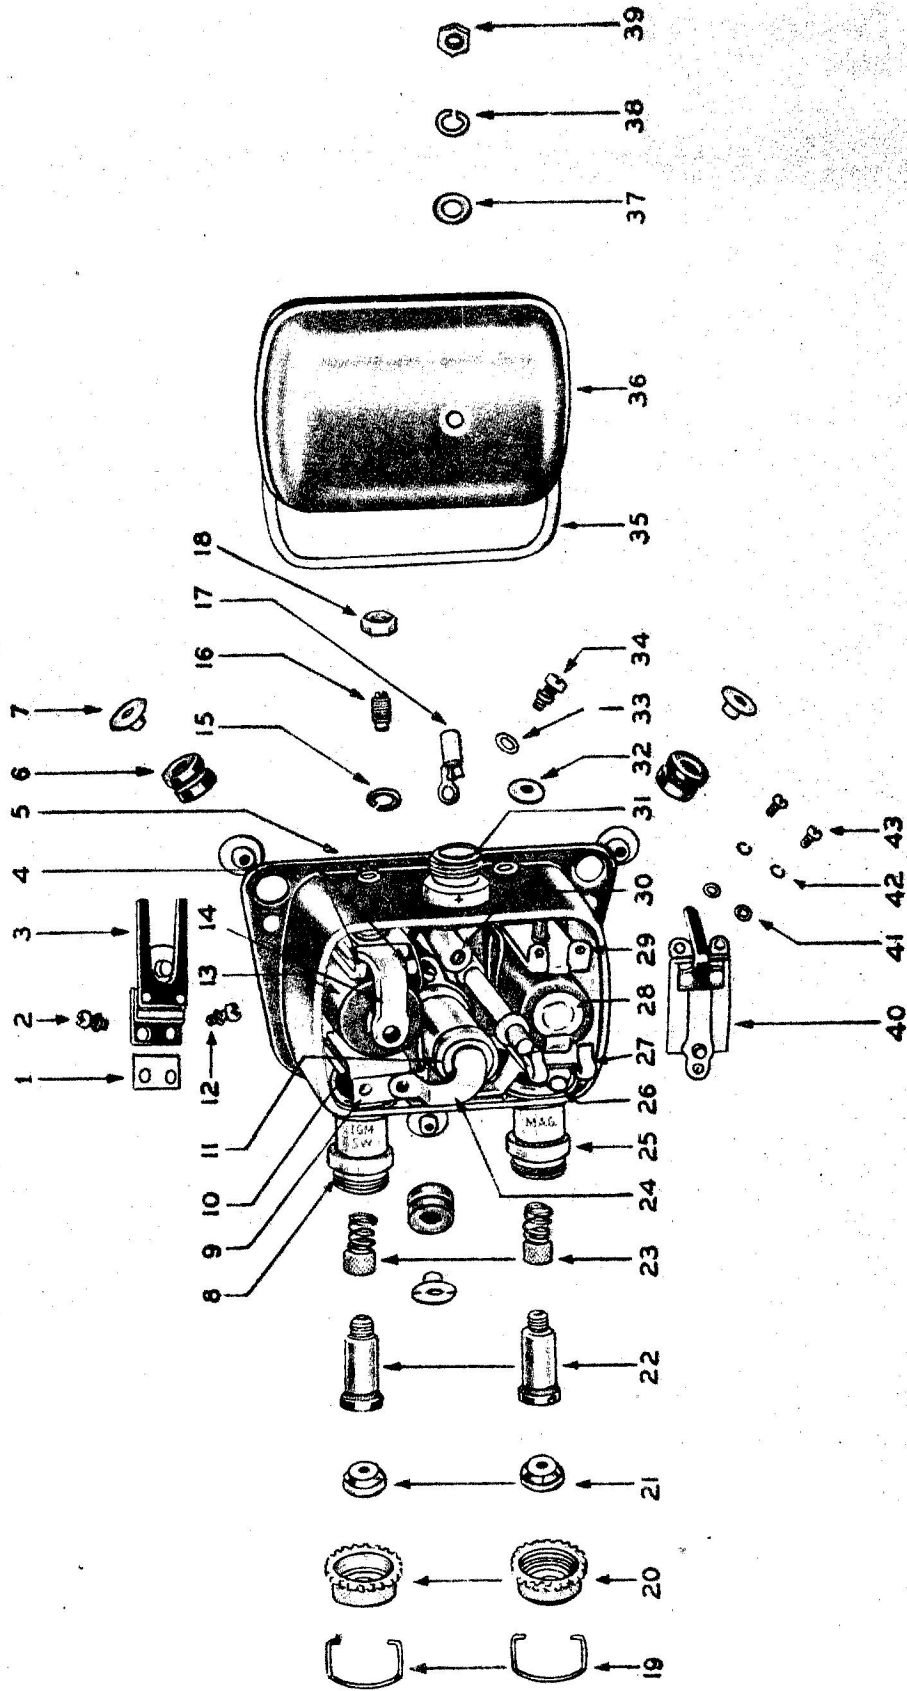

Figure 5 — Starting Vibrator Disassembled
1. MOUNTING STARTING VIBRATOR. (See figure 5.)
a. Trip lock springs (19) and unscrew ignition and magneto outlet nuts (20). Remove insulation glands (21), terminals (22), and nuts with spring assemblies (23). Remove top cover fastening nut (39), lock washer (38), and plain washer (37) and lift off top cover (36).
3. COMPLETING INSTALLATION. (See figure 5.)
KEY TO FIGURE 5
2. DISASSEMBLY. (See figures 5 and 6.)
(2) If the vibrator passes the above test; further disassembly is discouraged. As the unit is not in use during flight, and is used only to start the engine, and then only for a matter of seconds, very little, if any, wear will be in evidence. The contact points should not be misconstrued as being subjected to the same wear, or needing the same attention, as magneto contact points. A smoky appearance and evidence of contact arcing are normal and should not be considered of sufficient importance to require disassembly and cleaning. In very remote and extreme cases, after a very long period of use, it may become necessary to clean and adjust the points. However, if the unit passes the above test, it can be assumed that the points do not need cleaning and are in proper alignment. *If the unit fails to pass the above test, then, and then only, the following disassembly instructions should be followed.*
e. **CONTACT POINT AND ARMATURE PLATE. (See figure 5.)**
(1) With a 1/16-inch socket wrench, remove nut (18) on contact screw with point (16) and lift off lock
(2) The other vibrator point is part of the vibrator armature plate (3) and must be removed with the plate. With the screw driver, remove the two screw and lock washer combinations (2 and 12) which fasten the armature plate to the vibrator yoke and remove the vibrator plate. Also remove the small two-hole plate (1) under the hinged end of the armature plate.
f. **RELAY ARMATURE PLATE.**—Turn knurled tension adjusting nut (32) on stud of relay yoke until it is nearly to the end of threaded portion of stud. Using a screw driver, remove the two screws (43), lock washers (42), and plain washers (41), holding relay armature plate (40) to yoke. Slide armature plate toward positive bushing side of vibrator housing, until it clears the two hooked arms on opposite end of yoke, and remove.
4. REASSEMBLY. (See figures 5, 7 and 8.)
a. **RELAY ARMATURE PLATE.** (See figures 5 and 7.)
(1) Slip tension spring of relay armature plate (40) down inside vibrator housing and press down on point end of armature plate until it slips under hooked arms (27) on opposite end of relay yoke and rests on nonremovable point (26).
(2) Raise screw fastening end of armature plate and press tension spring until it slips behind the knurled tension adjusting nut (32).
(3) Place the lock and plain washers (42 and 41) on the screws (43) and insert screws while aligning the points. When the points are in perfect alignment,
b. **CONTACT POINT AND ARMATURE PLATE.** (See figure 5.)
(1) Slide armature plate (3), with contact point facing up, over coil so that the flat springs rest on extension arms (4) and hinge end rests on end of yoke (10), under coil lead (9) and condenser lead (24).
(2) Slip supporting plate (1) between armature plate (3) and yoke (10) so that when holes are aligned, edge of supporting plate will also be aligned with ends of armature plate and yoke.
(3) Insert the screw and lock washer combination (2 and 12) and tighten moderately. Note that the long screw (12) is inserted through the condenser lead (24).
(4) Insert vibrator contact screw with point (16) into fastening nut (18) and place lock washer (15) under nut. Screw contact screw with point in contact bracket (14), tighten down until vibrator points just touch.
(5) Slide a .035-inch feeler gauge between rivet on bottom of armature plate and core of vibrator coil
1. ELECTRICAL TESTING EQUIPMENT. (See figures 5 and 8.)
2. TESTING VOLTAGE AND ADJUSTING CUT-IN POINT. (See figures 5 and 8.)
3. TESTING AND ADJUSTING AMPERAGE. (See figures 5, 8 and 9.)